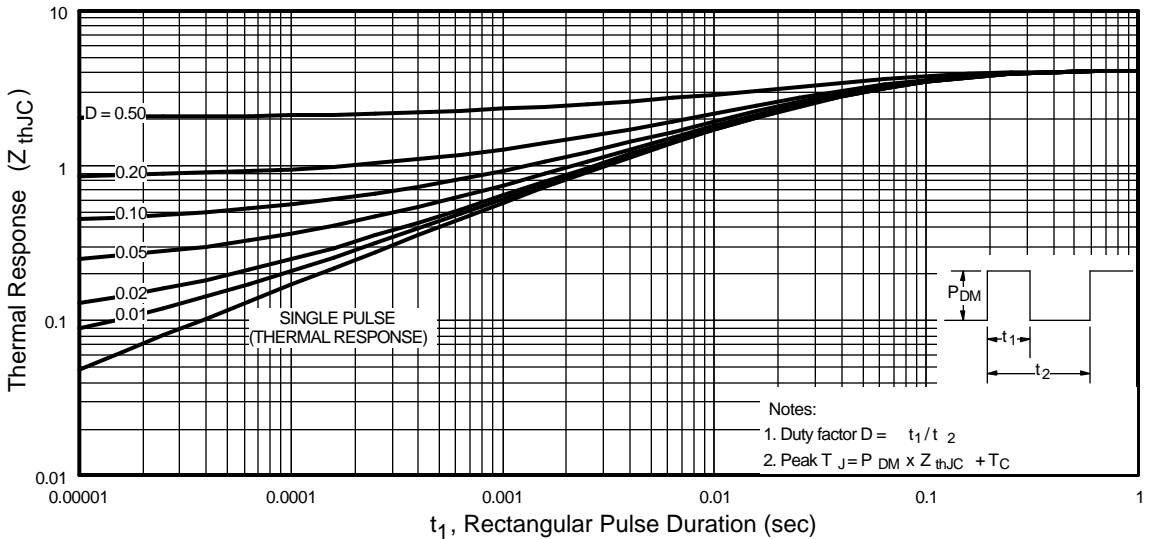

Fig 11. Maximum Effective Transient Thermal Impedance, Junction-to-Case
- ① Repetitive rating; pulse width limited by max. junction temperature. (See fig. 11)
- ② $V_{DD} = 25V$, starting $T_J = 25^\circ\text{C}$, $L = 610\mu\text{H}$